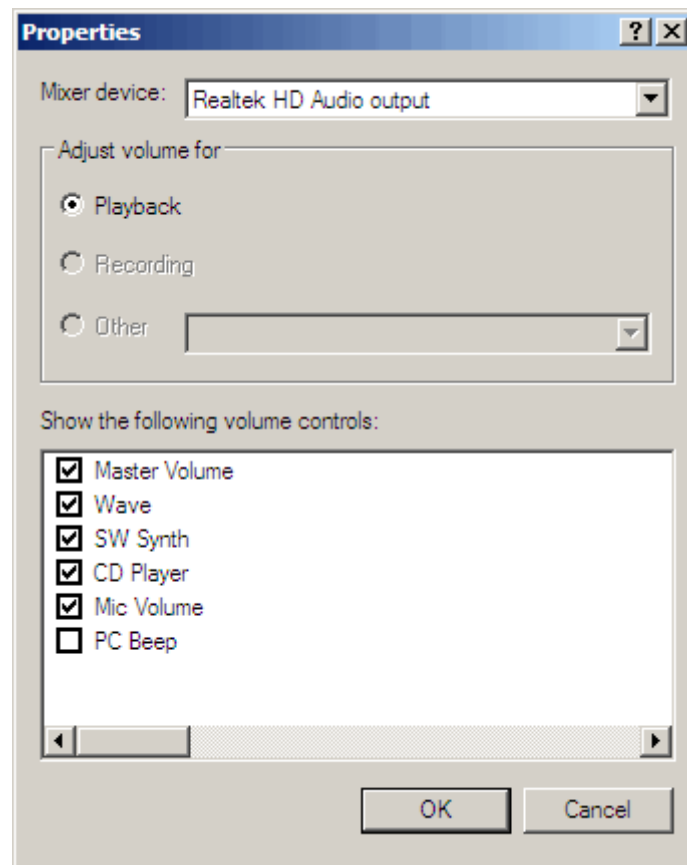

Figure 4.7 Dialog for choosing soundcard and input/output channels
2. Click on menu 'Options->Property' and select soundcard channel that will be used for output (playback), as shown in Fig. 4.7.